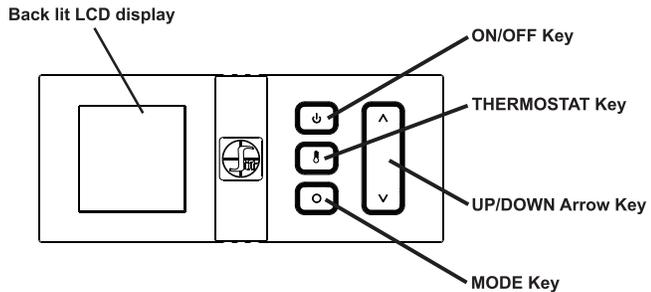

FIG 2: WALL MOUNT / REMOTE
7. Press the "ON" button on the wall mount / remote. (**FIG 2**)